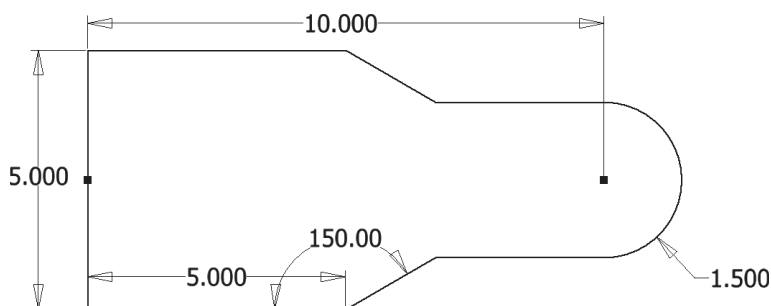

Figure 2.71
- 11 Add a horizontal dimension by selecting the left vertical line and the center point of the arc (or on top of the arc). Locate the dimension above the sketch. Enter 10 for the value as shown in Figure 2.71.
- 16** Use Undo from the Quick Access toolbar to return the sketch to the values shown in Figure 2.71.